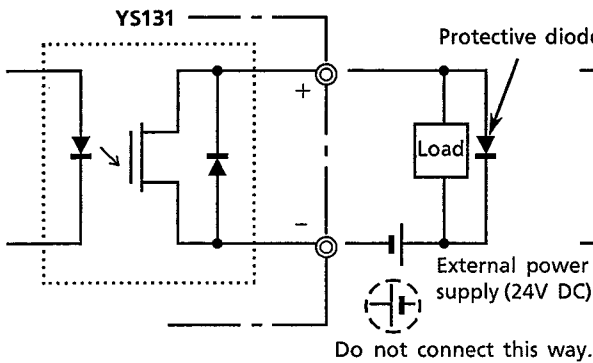

Figure 3.6 Connection Using the Status Output
- Be sure to connect a protective diode (surge absorber) in parallel with the load when driving an inductive load such as a relay (see Figure 3.6).
- To connect the power supply which is to be used to drive the load, match the polarity of the power supply with the polarity marked on the terminal board (see Table 3.1 for terminal assignment) (see also Figure 3.6).